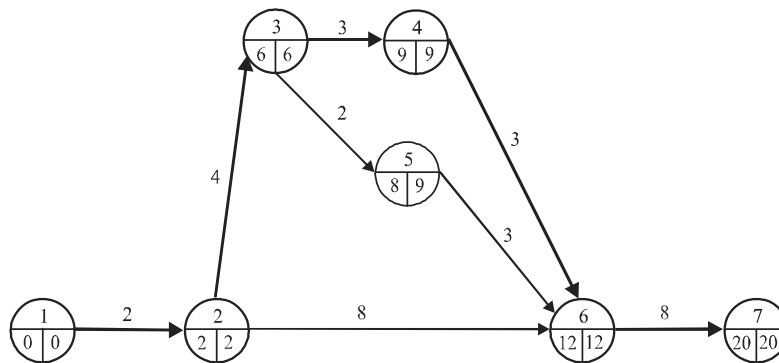

Fig. 10.16
**Step 2 :** The least cost-time slope of activities on the critical path is 1,000 on activity 2-3 as well as 4-6. Hence any of the two activities can be taken up for crashing. Selecting 4-6 we get the network as follows: (Refer Fig. 10.16)